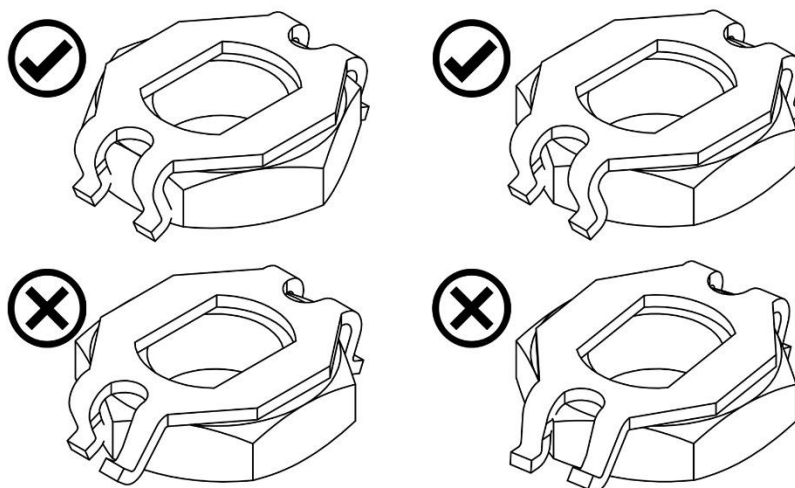

Figure 4 Fitting the locking clip
- f) Fit the locking clip correctly as shown in Figure 4.